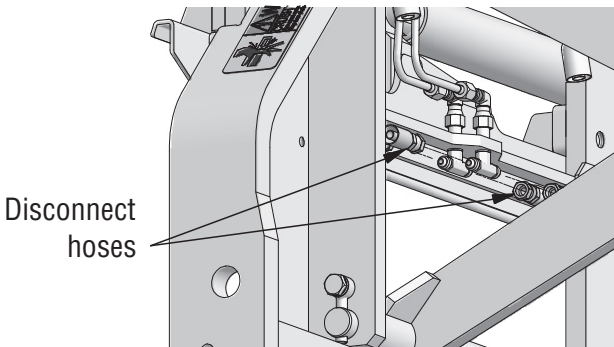

Figure 6-13, Disconnect Hoses
3. Disconnect the hydraulic hoses that attach to the cylinder, and then disconnect the cylinder fittings (Figure 6-13). Cap and tag for reassembly.